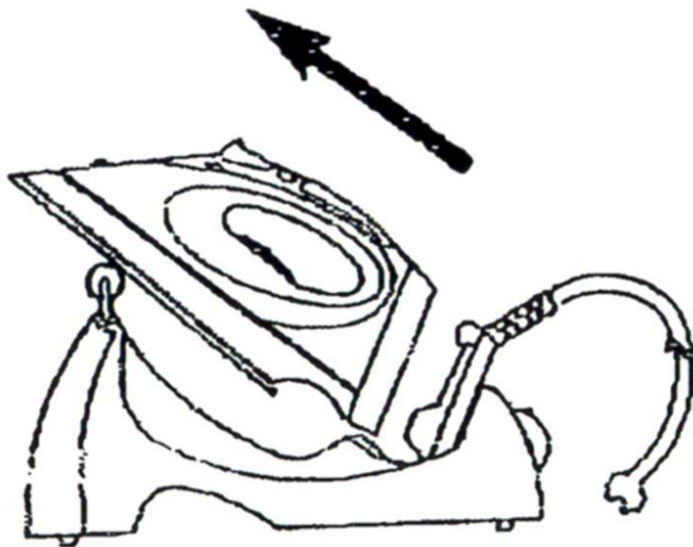

Fig. 1
- Set the variable steam control (2) to position 0 (no steam).
- Set the 3-position switch (13) to position “cordless” (13B) and take the cordless iron from the stand. (see fig. 1)